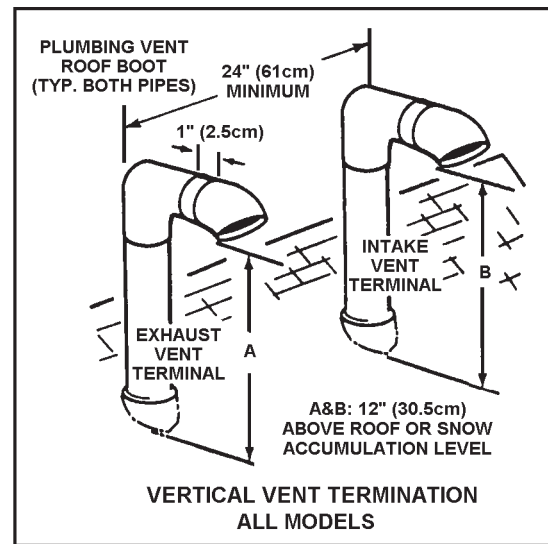

FIGURE 20.
The specifications are displayed in Figures 20 & 21.
1. Vent Termination must extend a minimum of 18 inches (46 cm) above roof or 18 inches (46 cm) above the anticipated snow level to prevent blockage of the vent termination, as shown in Figures 20 and 21.